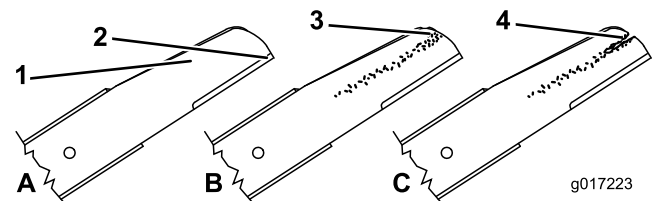

Figure 30
- Inspect the cutting edges (Figure 30). If the edges are not sharp or have nicks, remove the blades and have them sharpened or replace them.
- Inspect the blades themselves, especially the curved area (Figure 42). If you notice any damage, wear, or a slot forming in this area (Figure 30), immediately replace them with new blades.